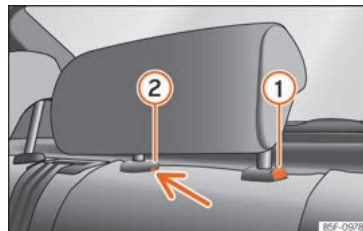

Fig. 159 Rear centre head restraint: release point.
- To set the head restraint lower down, press the ① »» Fig. 159 button and move it downwards.
- Press button ① »» Fig. 159, while simultaneously pressing on the security hole ② »» Fig. 159 with a flat screwdriver a maximum of 5 mm wide, and remove the head restraint.